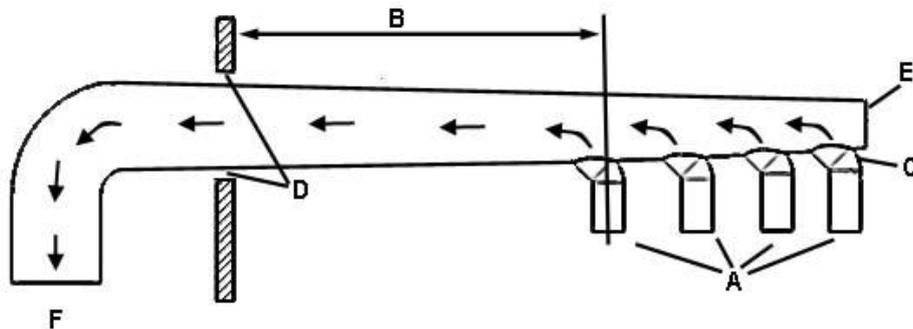

Fig. 5.14
The best extraction is achieved by connecting the extraction ducts individually for each machine. However, when several machines need to be connected to a main manifold, bear in mind that its dimensions should be as indicated below (Fig. 5.14).
- The diameter of the main duct should increase progressively as individual ducts are added (Fig. 5.14/A). The minimum diameters should increase proportionally if the approximate length of the collector (Fig. 5.14/B) exceeds 6 metres (20 ft) or has several elbow joints.
- The extraction ducts from each of dryers to the manifold (Fig. 5.14/A) should:
- have an input angle of 45° in the direction of flow (Fig. 5.14/C).
- have rounded elbow-joints (Fig. 5.14/C).
- be connected to the bottom or to one side of the main duct (Fig. 5.14/C)
- Where the extraction duct passes through a wall or a ceiling made of combustible material, the opening to be made should be at least 5 cm (2 in) greater than the diameter of the duct, and the latter should be centred in the opening (Fig. 5.14/D)
- The main manifold should have an access point for inspection and maintenance at the end (Fig. 5.14/E).